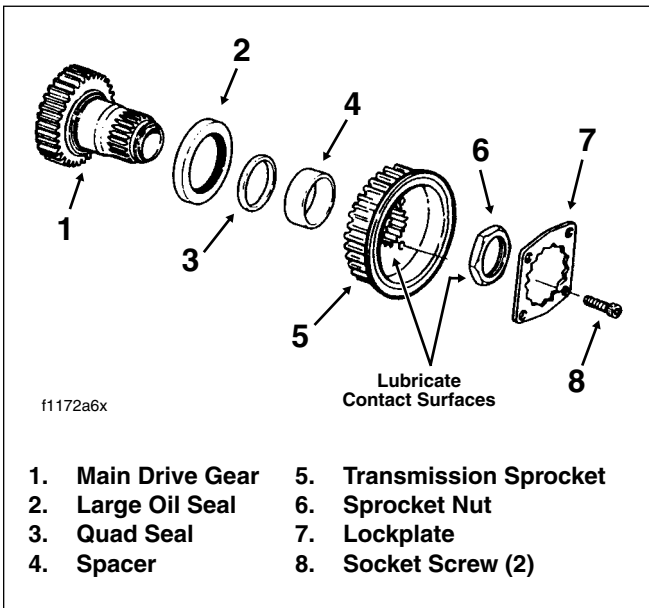

Figure 6-9. Install Transmission Sprocket Components
3. See Figure 6-9. Remove the two socket screws and lockplate to free the sprocket nut.
Used sprocket nut: apply Loctite High Strength Threadlocker 262 (red) to the threads of the sprocket nut. Also smear a small quantity of Loctite or clean engine oil on the inside face of the sprocket nut and the outside face of the sprocket. Limit the application to where the surfaces of the two parts contact each other. See Figure 6-9. Install the sprocket nut until finger tight.